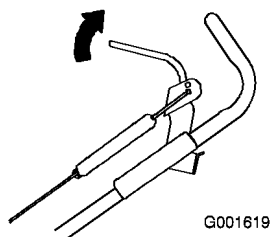

Figure 20
1. Move the control bar back toward the handle until you remove the slack in the cable (Figure 20).